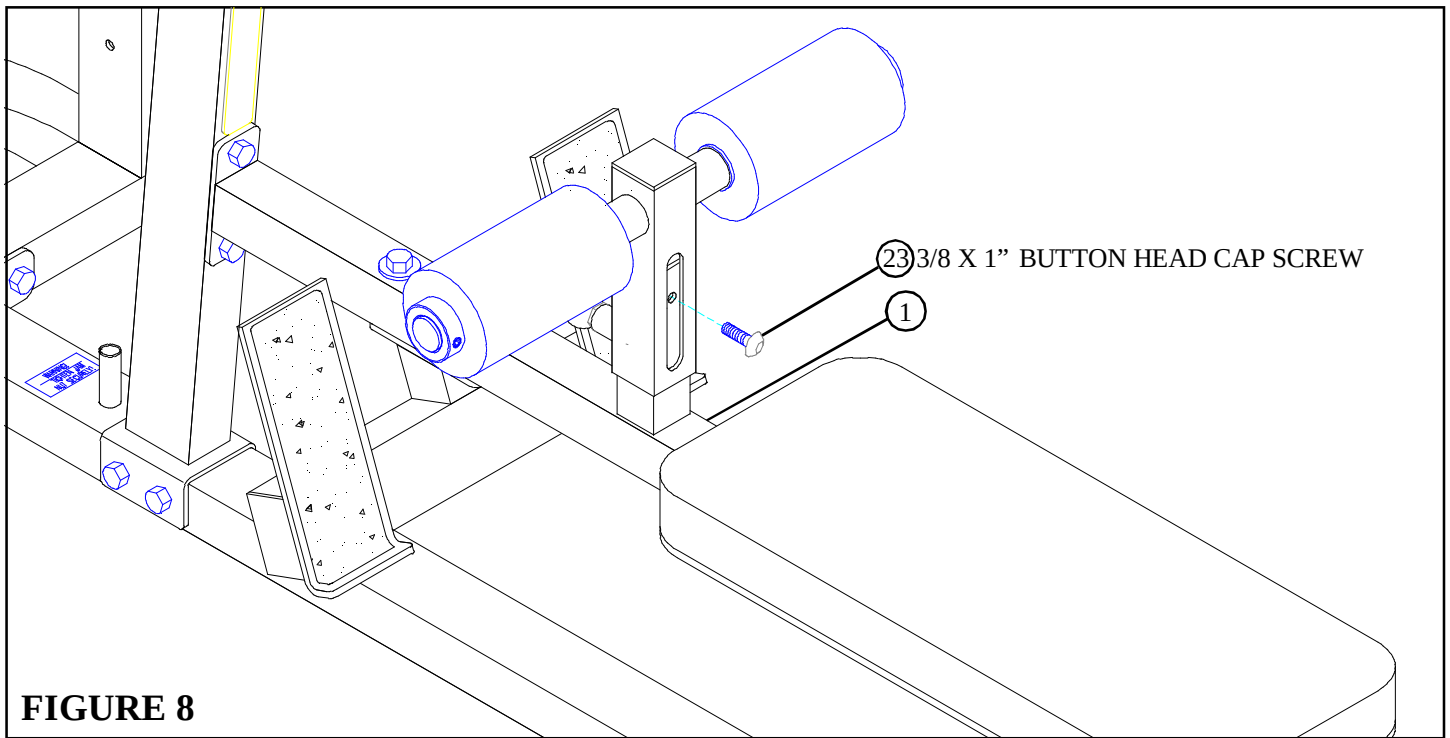

FIGURE 8
SECURELY assemble one 3/8 X 1" BUTTON HEAD CAP SCREW (23) into the threaded hole on the BENCH FRAME (1) as shown in FIGURE 8.